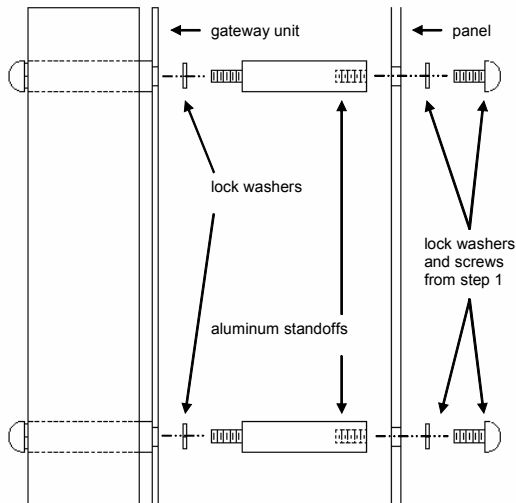

Figure 1: Standoff Kit Installation
2. Install one of the male/female standoffs and a #6 lock washer from the standoff kit through the unit's circuit board and into the bottom of the cover standoff. Refer to Figure 1.
5. As shown in Figure 1, use the four screws and lock washers from step 1 to mount the unit from the back side of the panel.